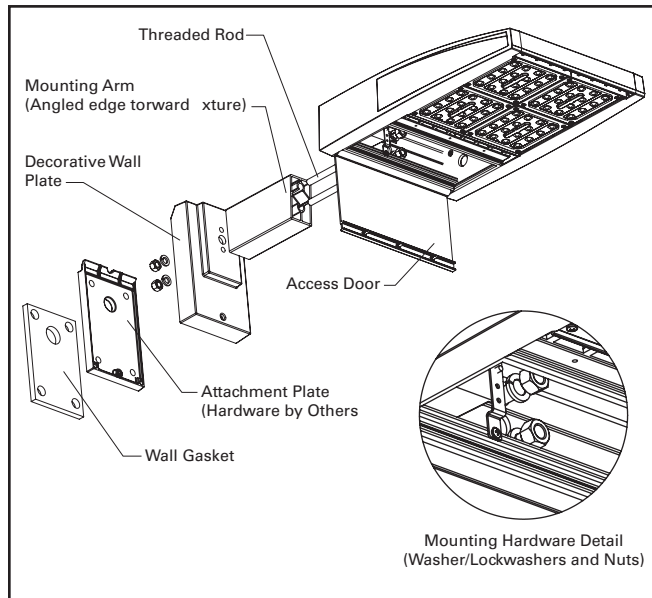

Fig 2.
### Wall Mount (FIG. 2)
1. Loosen (3) screws located in the access door of the fixture and open the door.
4. Slide the included arm over the bolts as shown in FIG. 2. Make sure the angled portion of the arm matches the angle at the back of the fixture so that the assembly will be level upon completion. The long side should be at the top of the fixture.